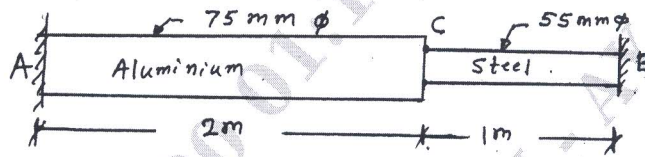

Fig.Q7(b)
- b. Two solid shafts AC and BC of Aluminium and Steel are rigid supports 'A' and 'B'. A torque of 200 N-m is applied at the Junction 'S'. What is the angle of twist at the Junction? Take modulus of rigidity of the material. $G_{AR} = 3 \times 10^4 \text{ N/mm}^2$. $G_{St} = 9 \times 10^4 \text{ N/mm}^2$ [Refer Fig.Q7(b)]. (15 Marks)